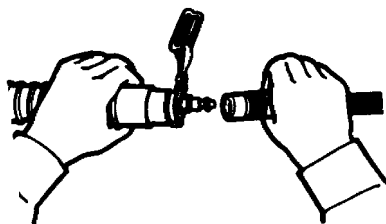

Figure 16
2. With air flowing, connect breathing tube assembly to air supply hose (see Figure 16). Connect quick-disconnect fitting on breathing tube assembly to quick-disconnect coupler on air supply hose. Once fitting is secured, release coupling sleeve to lock fittings together. Pull on both hoses to make sure they are attached securely.